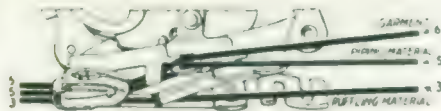

Fig. 69. *Correct Position of Material.*
1. Insert material to be ruffled between two blue blades from the right (Line 3, Fig. 69). This material must not exceed $1\frac{1}{4}$ inches in width.
$\frac{1}{4}$ inch wide when folded in centre. Place piping material in ruffler, following Line 5, Fig. 69 with folded edge of piping to right.
insert it in ruffler, from the left following Line 6, Fig. 69.